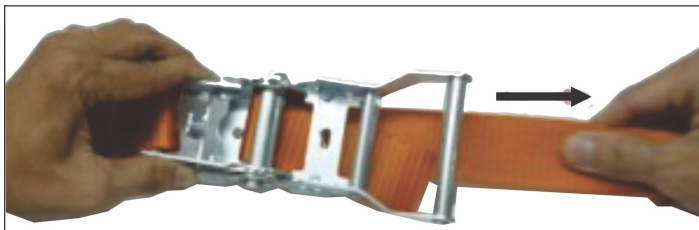

Figure 3.7
- Pull the ratchet to loosen the strap (Figure 3.7).